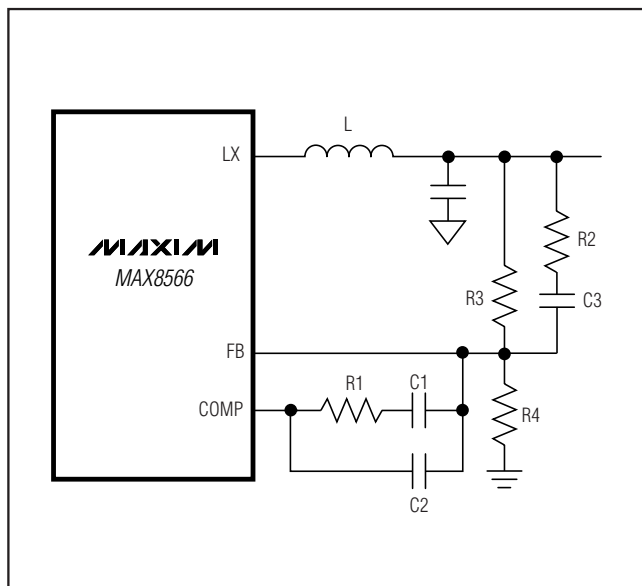

Figure 4. Type 3 Compensation Network
The high switching frequency range of the MAX8566 allows the use of ceramic output capacitors. Since the ESR of ceramic capacitors is typically very low, the frequency of the associated transfer-function zero is higher than the unity-gain crossover frequency,  $f_C$ , and the zero cannot be used to compensate for the double pole created by the output filtering inductor and capacitor. The double pole produces a gain drop of 40dB and a phase shift of 90 degrees per decade. The error amplifier must compensate for this gain drop and phase shift to achieve a stable high-bandwidth closed-loop system. Therefore, use Type 3 compensation as shown in Figure 4. Type 3 compensation possesses three poles and two zeros with the first pole,  $f_{P1\_EA}$ , located at zero frequency (DC). Locations of other poles and zeros of the Type 3 compensation are given by:
Begin by setting the desired output voltage. The output voltage is set using a resistor-divider from the output to GND with FB at the center tap (R3 and R4 in Figure 4). Use 20kΩ for R4 and calculate R3 as: